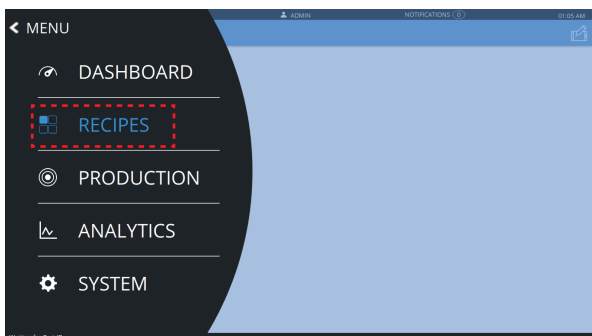

Figure 4: Menu Icon > Recipe
1. Hit the menu icon at top left, then select **RECIPES** (see **Figure 4**)